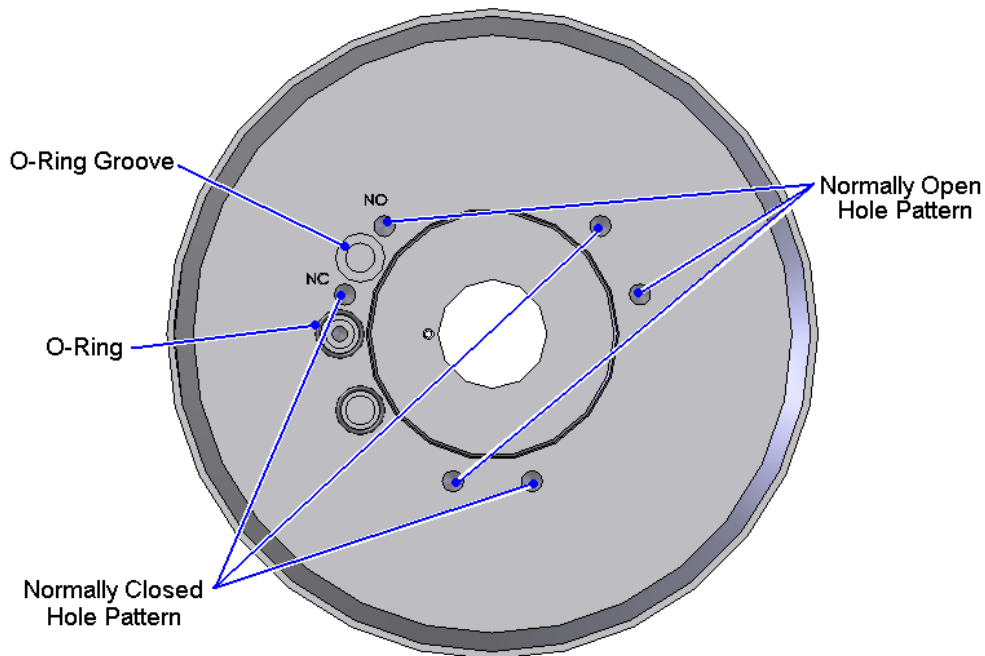
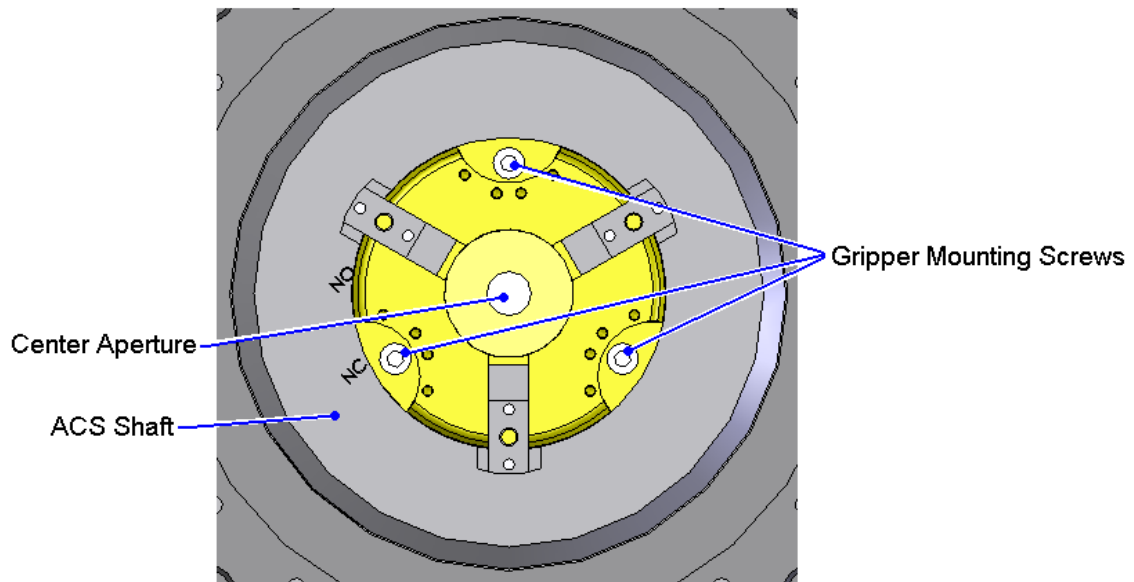

Figure 4-14: Gripper Mounting Hole Locations in ACS and ACS LP Shaft
Figure 4-15: Mounting Holes for Three-Jaw Gripper
The grippers are configurable in both normally-closed and normally-open modes. The center shaft of the ACS stages has two sets of mounting holes for the three-jaw grippers, one for a normally-open configuration and one for a normally-closed configuration. See Figure 4-14 for locations of these holes. Figure 4-15 shows the mounting screw locations on the gripper itself. The following is the procedure to change configurations:
4. It will be necessary to move an O-Ring on the shaft. Figure 4-14 shows two O-Rings and the three O-Ring grooves. One O-Ring should always be around the air inlet hole, and the other must be moved to help seal the gripper. Move the O-Ring as necessary so that the set screw in the gripper will be surrounded by an O-Ring when it is bolted to the stage.